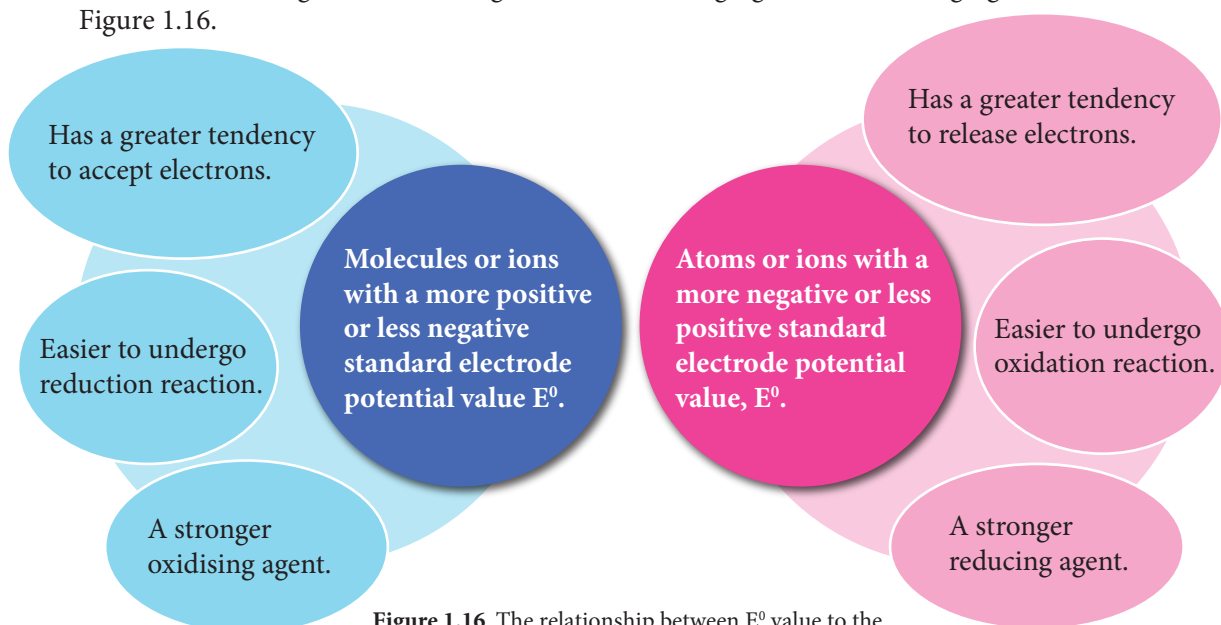

Figure 1.16 The relationship between E^0 value to the strength of a substance as an oxidizing agent and a reducing agent
- To summarise, the value of E^0 can be used to determine the substance that will undergo oxidation or reduction, along with the strength of the oxidising agents or reducing agents as shown in Figure 1.16.